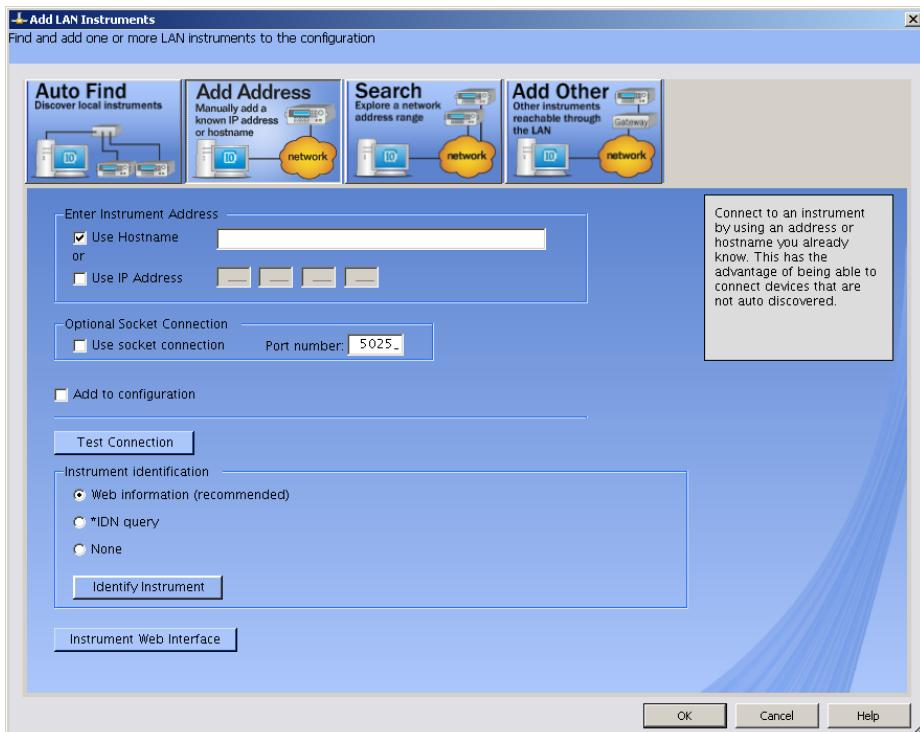

Figure 35 Add LAN Instruments Add Address Dialog screen
- 1 From the Add LAN Instruments screen, select the Add Address tab. (Figure 35).